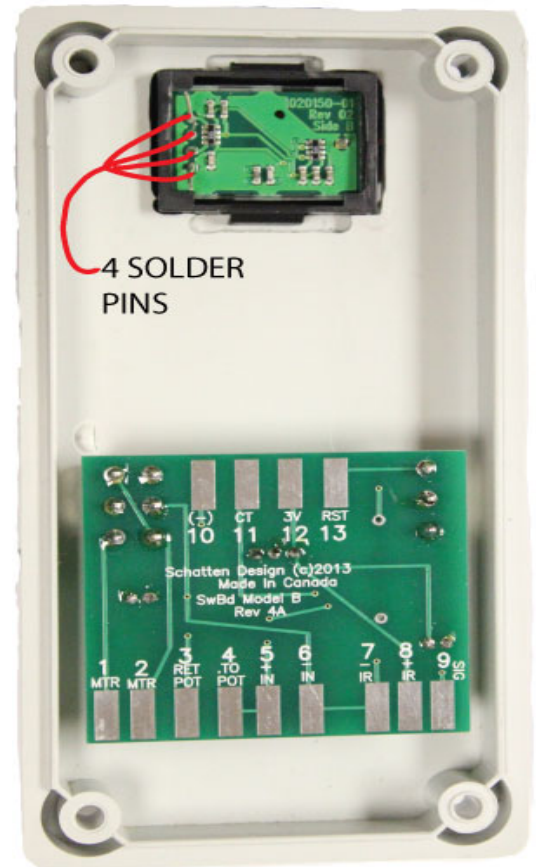

Fig 3
- 3) Mount the circuit board to the cover by inserting the toggle switches through the holes in the cover. Note the alignment of the circuit board as shown (fig 3).